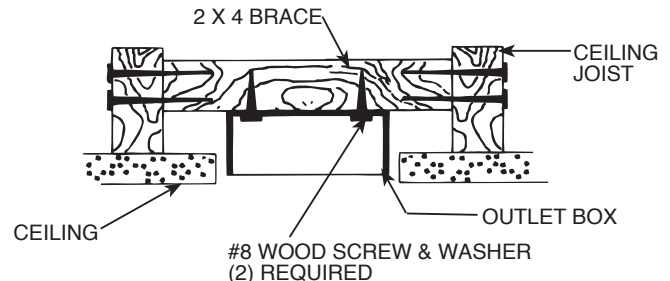

FIGURE 2. Outlet Box
**A.** Secure metallic outlet box 4" x 1-1/2" or 4" x 1/2" deep to 2 x 4 cross brace between two ceiling joists as shown in Figure 2. The outlet box must be recessed into the ceiling by 1/16" minimum. Secure the outlet box to the cross brace by drilling (2) pilot holes no larger than the minor diameter of the wood screws (5/64") and use two #8 x 1-1/2" wood screws and washers. Use the innermost holes for securing the box. Orient the box so the outermost holes will be used in Step 4B.